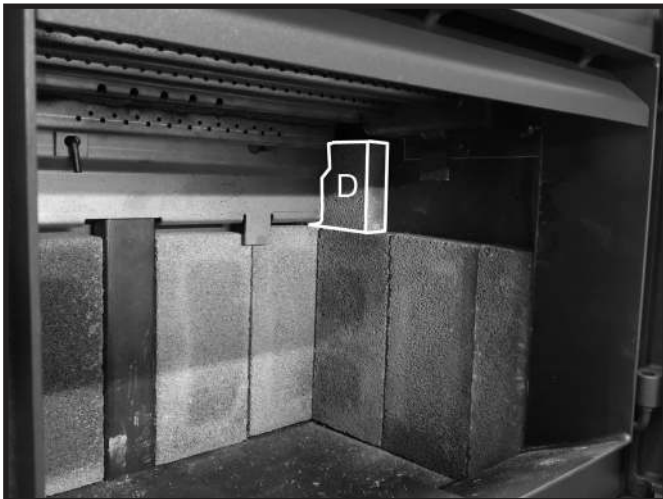

Figure 15: Small side wall firebrick in position.
3. Place a "D" firebrick on top of the previously placed "A" firebricks and slide this firebrick back toward the rear wall making sure that this firebrick tucks in behind the brick rail (Figure 15).